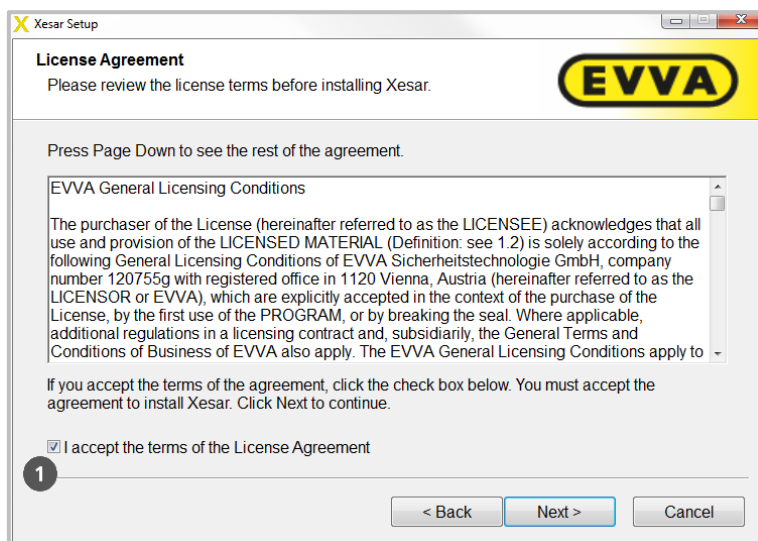

Figure 34: Xesar installation — licence agreement
Accept the terms and conditions to be able to install the software ❶ (Figure 34: Xesar installation — licence agreement). Then click **Continue**.